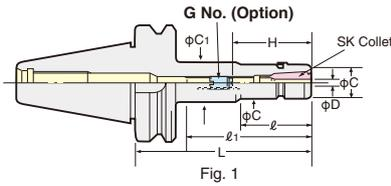

Fig. 1
- ★Extended gauge length slim chucks with the straight arbor like as Fig.1 are available.